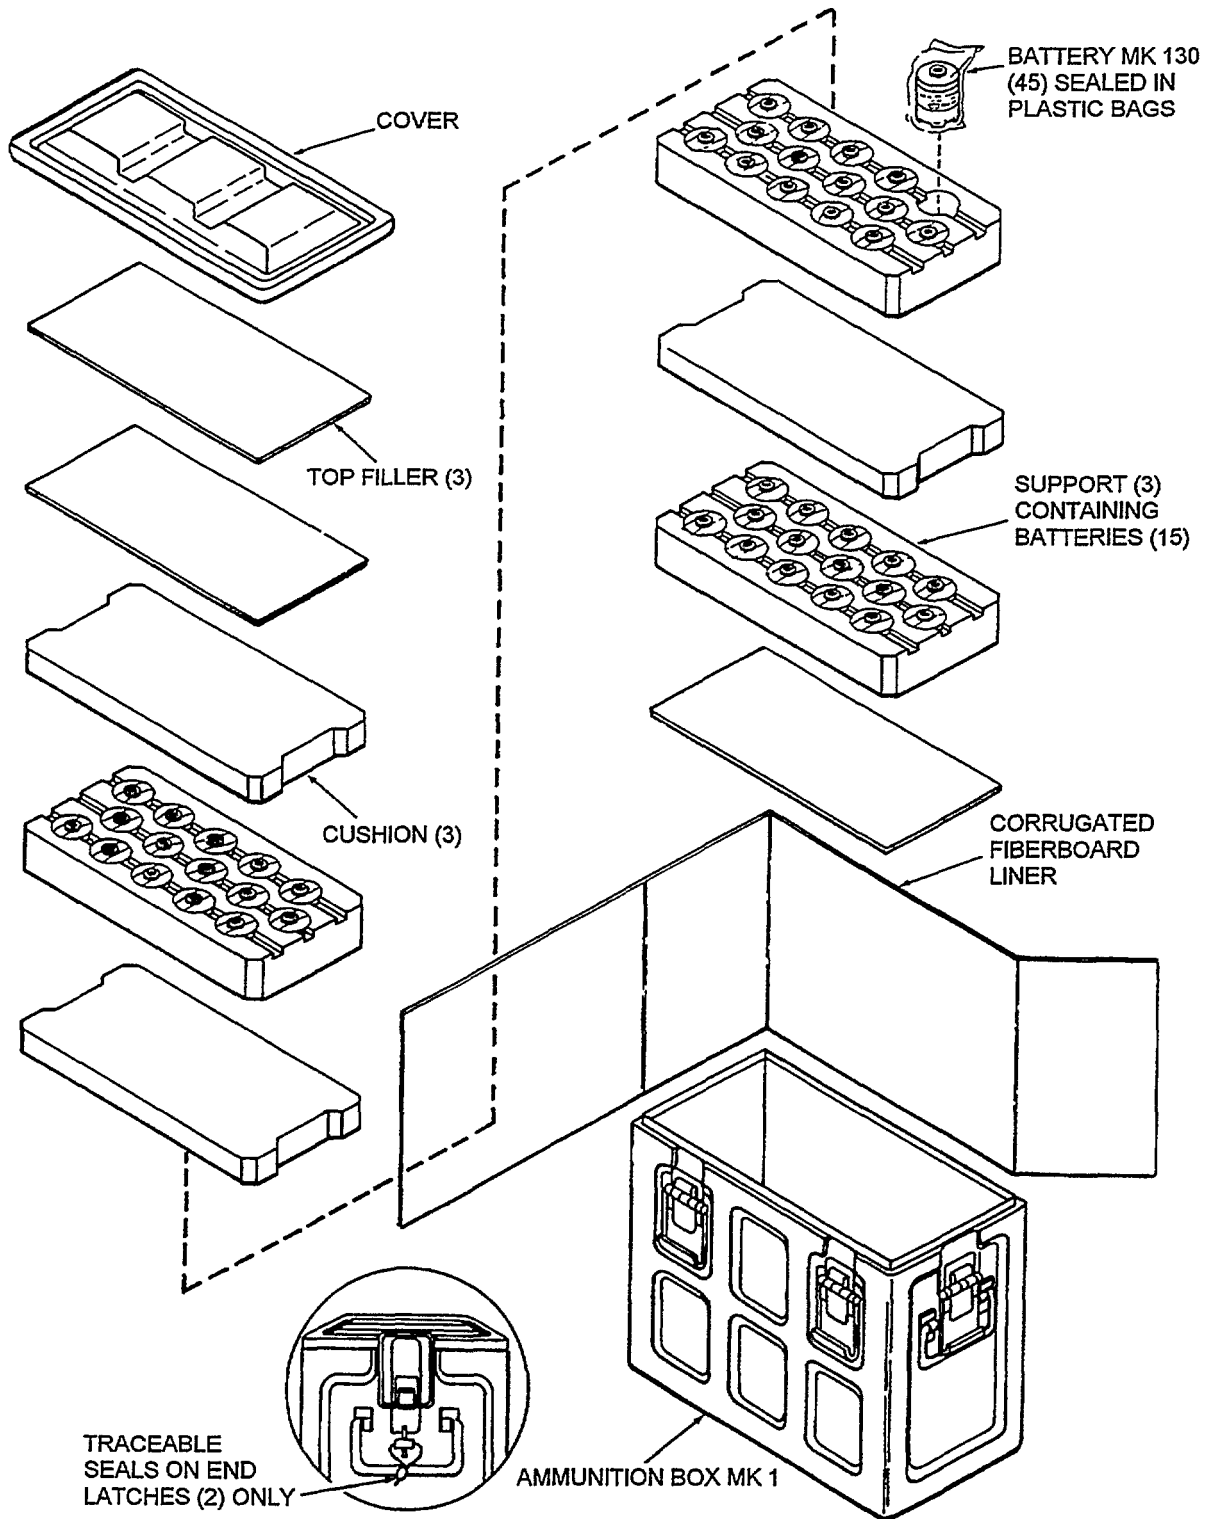

Figure A-1. Battery Mk 130 Mod 0 Repackaging
A.2.1 BATTERY MK 130 MOD 0 REPACKAGING (Figure A-1)